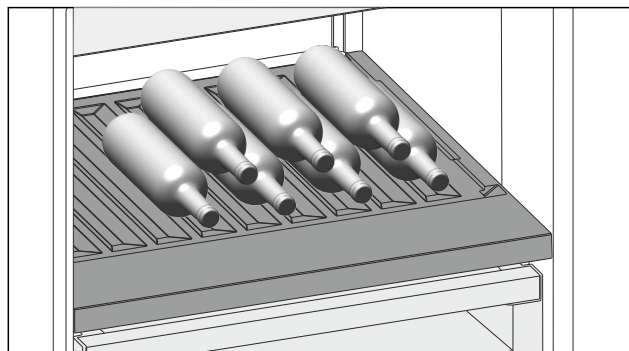

Fig. 97
- Place bottles in the back row with their bases against the back wall. (see Fig. 97)